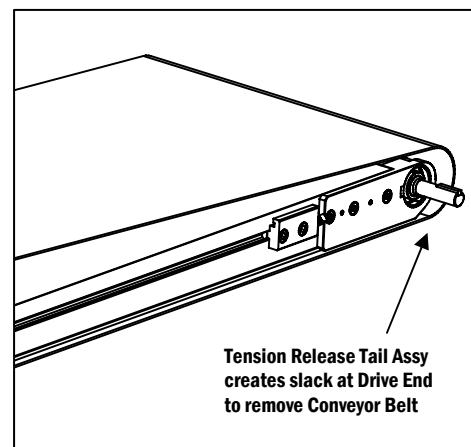

Figure 3
d. Transfer the belt slack towards the Drive End of the conveyor (**Figure 3**).